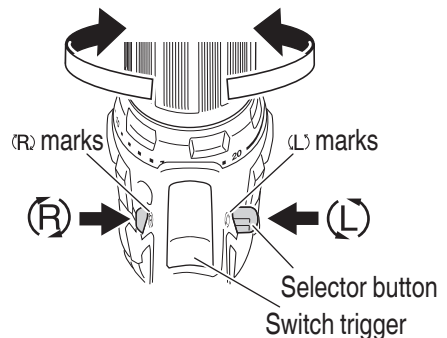

Fig. 9
The L-side of the selector button is pushed to turn the bit counterclockwise. (See **Fig. 9**) (The (L) and (R) marks are provided on the body.)